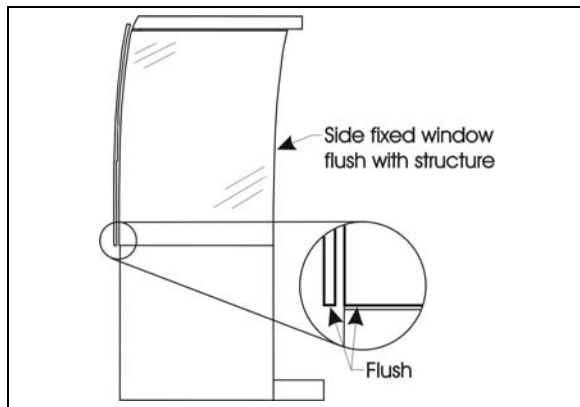

FIGURE 63 : SIDE WINDOW
11. Install side window on the slide-out structure as per FIGURE 63;